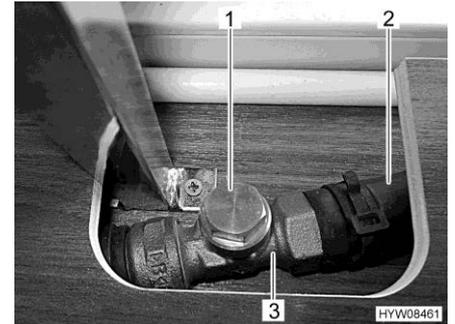

Fig. 163 Throttle (open)
- Touch the bypass line (Fig. 163,2) behind the throttle (Fig. 163,3). The pipe must be warm to the touch.